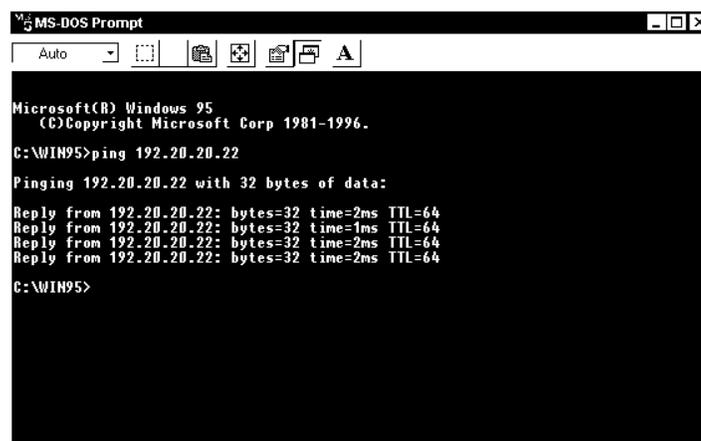

Figure 2.7 – Testing Communications with Ping
2. The response should be similar to that in Figure 2.7